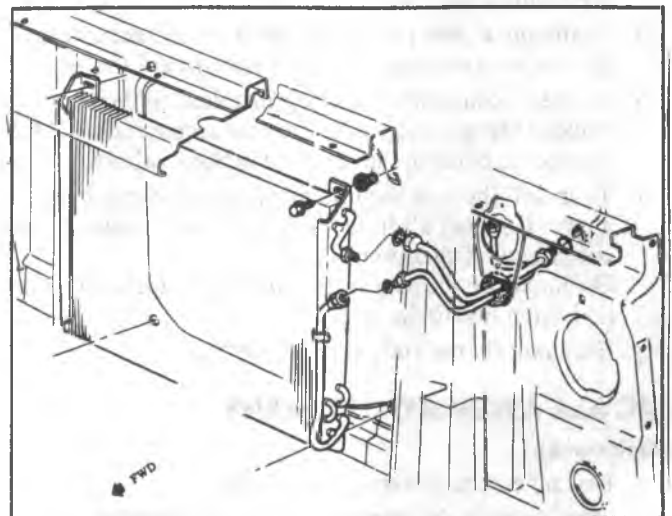

Fig. 1B-27--Condenser Installation (C-K Series)
**C60 SYSTEM--C-K SERIES****CONDENSER - C-K SERIES (FIG. 1B-27)****Replacement (Fig. 1B-27)**
5. Remove the left grille support to upper fender support (2) screws.